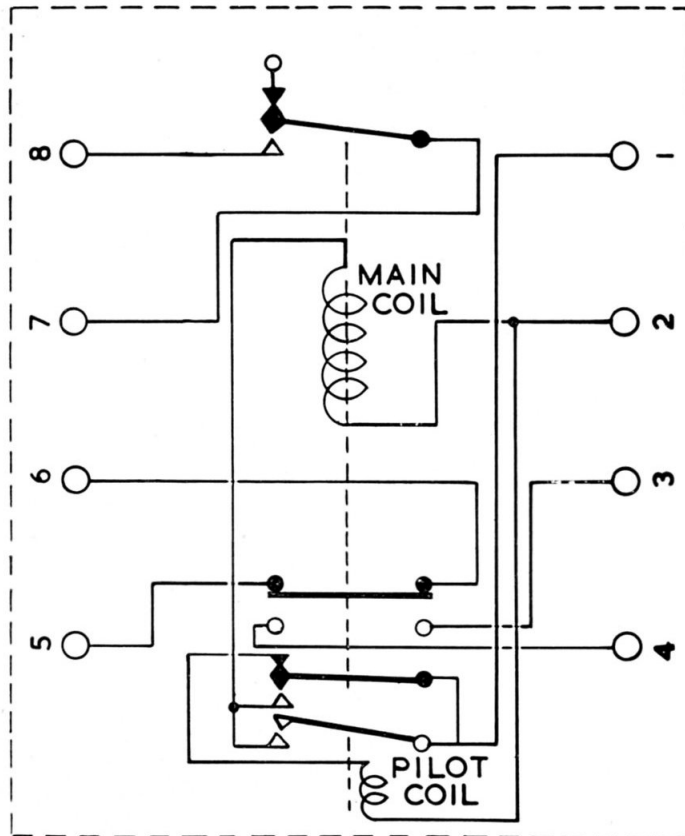

Fig. 2. Diagram of connections
4. When a supply of 28 volts is applied across terminals 1 and 2 (*fig. 2*), the pilot relay operates. This energizes the main coil, causing the contacts across terminals 7 and 8 to close, those across 3 and 4 to close, and those across 5 and 6 to open. The pilot coil is